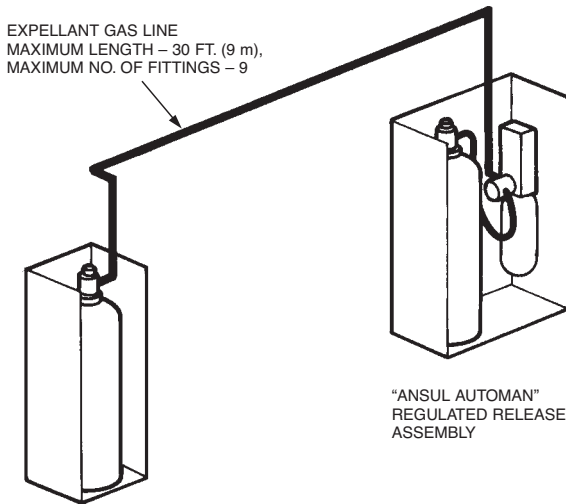

FIGURE 83
1. The expellant gas line piping is installed from the regulated release mechanism in double and multiple-tank systems, and from the regulated actuator assembly in multiple-tank systems. The expellant gas line is the piping between the regulator and the tank-enclosure/tank-bracket assembly. The total length of the expellant gas line from the regulated release mechanism or each regulated actuator assembly **must not exceed** 30 ft. (9 m) when using a “double-tank” cartridge, an LT-A-101-30 Cartridge, or a 101-30 Cartridge. See Figures 83 and 84.